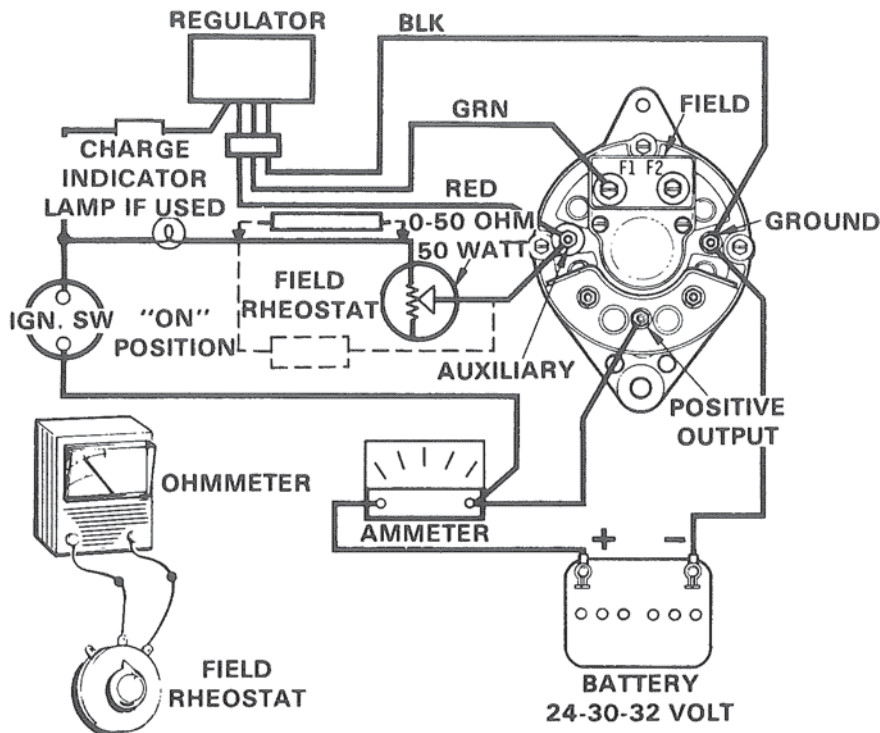

Figure 11. Eliminating Charge Lamp Glow.
- B. Diode has two (2) rectifiers connected in parallel and is the voltage sensing diode operating throughout the output stud. The purpose of isolation diode is to provide a charge indicator lamp without using mechanical relay.
- D. To determine which lamp will be needed, insert a variable resistant lamp and field rheostat into lamp circuit. Figure 11.